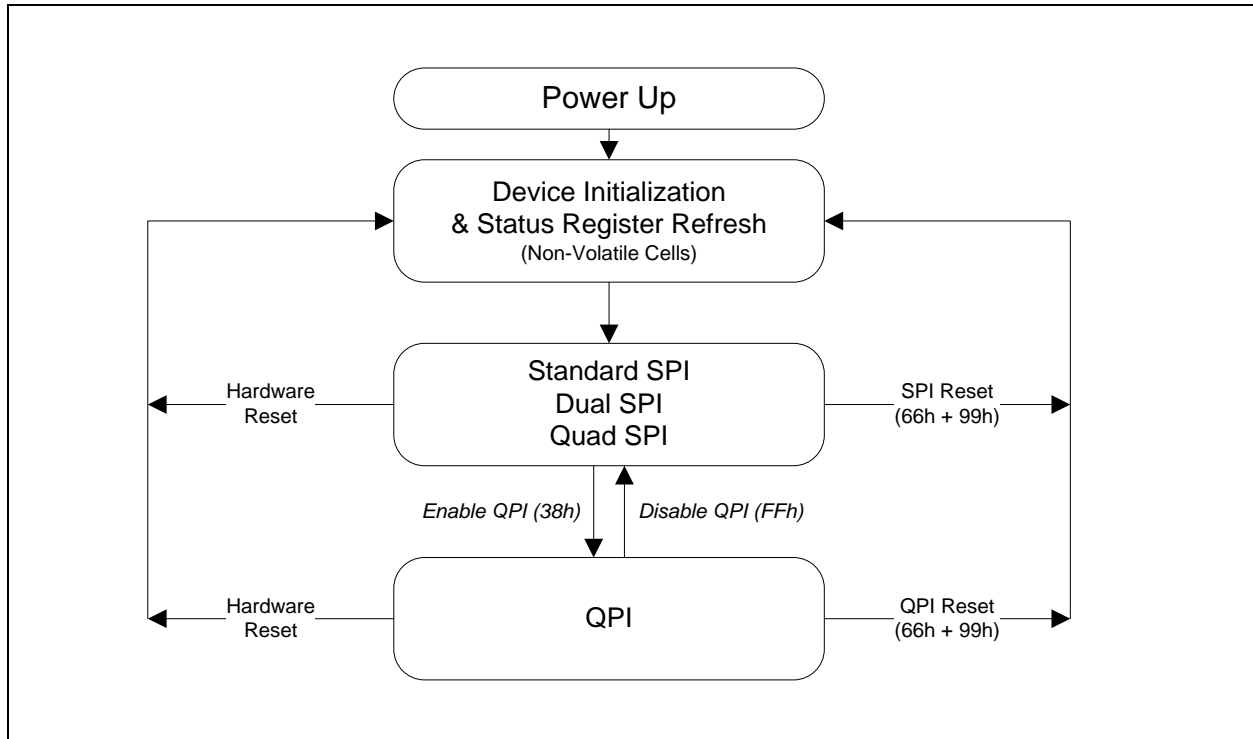

Figure 3. W25Q64FW Serial Flash Memory Operation Diagram
The W25Q64FW supports Quad Peripheral Interface (QPI) operations only when the device is switched from Standard/Dual/Quad SPI mode to QPI mode using the “Enter QPI (38h)” instruction. The typical SPI protocol requires that the byte-long instruction code being shifted into the device only via DI pin in eight serial clocks. The QPI mode utilizes all four IO pins to input the instruction code, thus only two serial clocks are required. This can significantly reduce the SPI instruction overhead and improve system performance in an XIP environment. Standard/Dual/Quad SPI mode and QPI mode are exclusive. Only one mode can be active at any given time. “Enter QPI (38h)” and “Exit QPI (FFh)” instructions are used to switch between these two modes. Upon power-up or after a software reset using “Reset (99h)” instruction, the default state of the device is Standard/Dual/Quad SPI mode. To enable QPI mode, the non-volatile Quad Enable bit (QE) in Status Register-2 is required to be set. When using QPI instructions, the DI and DO pins become bidirectional IO0 and IO1, and the /WP and /HOLD pins become IO2 and IO3 respectively. See Figure 3 for the device operation modes.